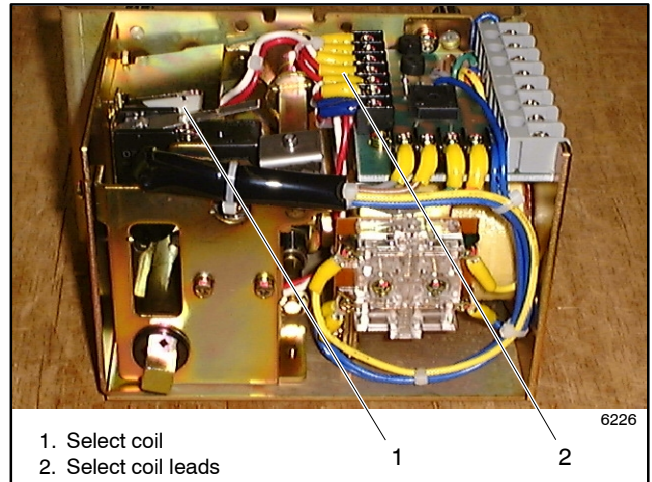

Figure 8-18 Select Coil Connections
1. Note connections and disconnect select coil leads. See Figure 8-18. Cut the cable tie, if necessary.